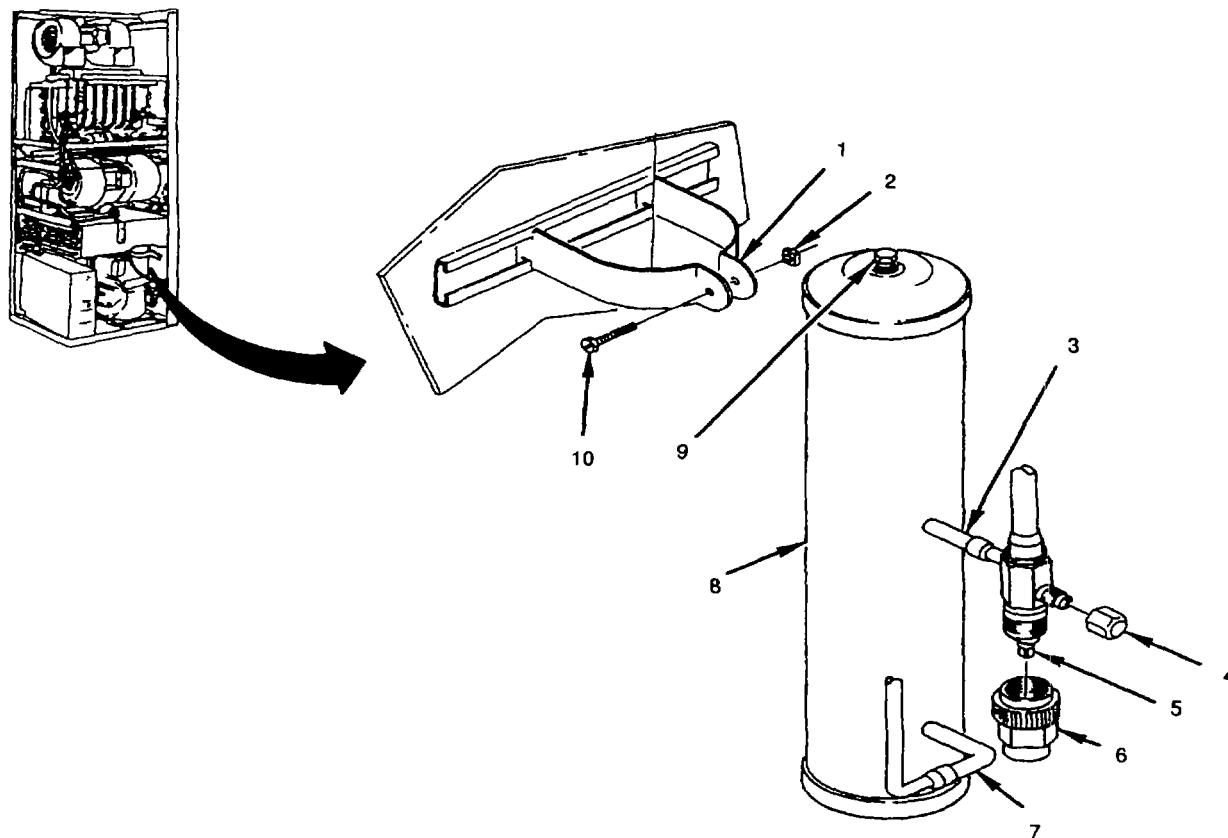

Figure 5-30. Receiver
- (1) Disconnect air conditioner input power at source;
- (2) (2) Discharge refrigerant system (paragraph 5.10); and
- (3) (3) Remove compressor (paragraph 5.37).
- a. Inspect for evidence of leaks damaged lines and loose or missing mounting hardware (see fig. 5-30).
- c. Check fusible plug (9) for leaks. If leaks are detected replace fusible plug.
- a. Frontseat (clockwise) receiver service valve (5).
- b. Remove valve caps (4) and (6).
- c. Remove screw (10) nut (2) and bracket (1).
- d. Debraze tubing (3) and (7) at joints (paragraph 5.12).
- e. Remove receiver (8).